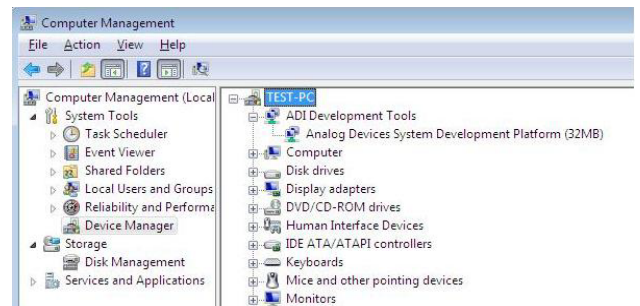

Figure 15. Device Manager: Checking that the Board Is Connected to the PC Correctly
- c. The **Computer Management** window appears. From the list of **System Tools**, click **Device Manager** (see Figure 15).